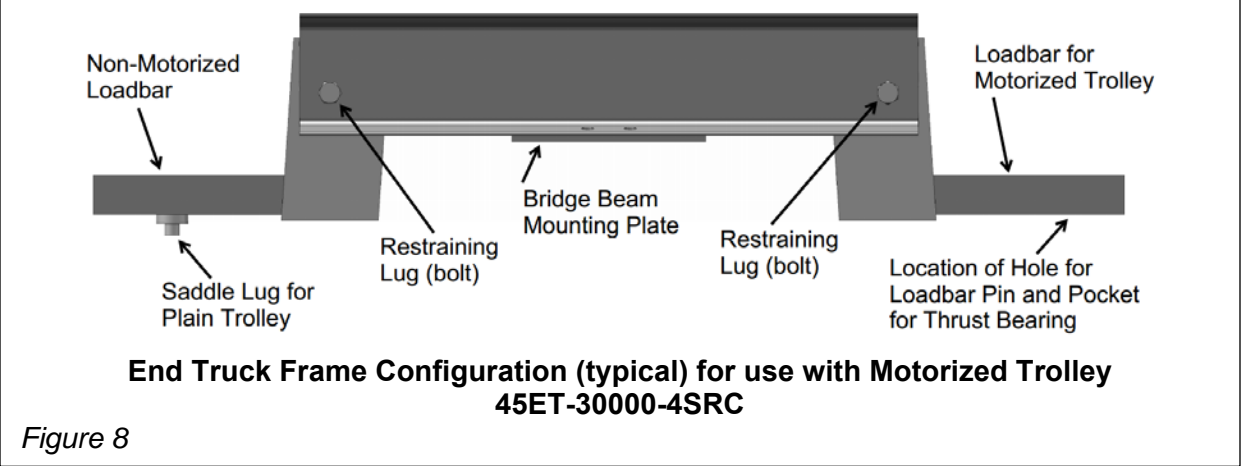

Figure 8
- Figure 8: configuration of end truck frame for use with one plain (idler) trolley and motorized trolley